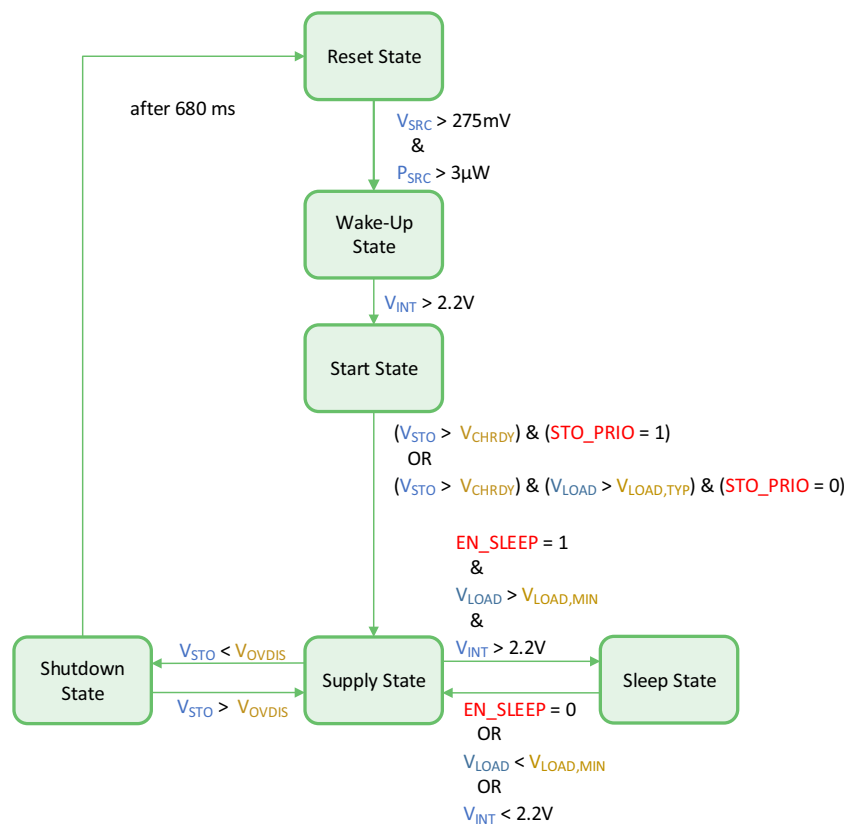

Figure 5: Diagram of the AEM00330 States
- If **EN_SLEEP** is asserted and conditions (shown on Figure 5) on V_{LOAD} and V_{INT} are satisfied, the AEM enters **SLEEP STATE** (see section 7.5).